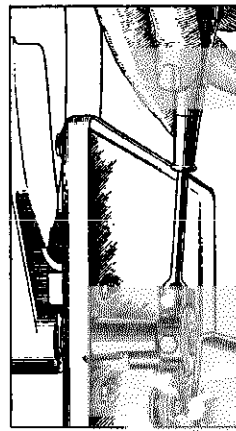

Figure 9—Magazine
- (b) Improper setting of magazine. The horizontal swing of the magazine should be so adjusted when the mechanism is out of cycle that the outer surface at its nearest point to the nearest side of the turntable spindle is $5 \frac{1}{16}$ ". This can be done by loosening the two screws as shown in Figure 9, moving the magazine to its correct position and retightening the screws.